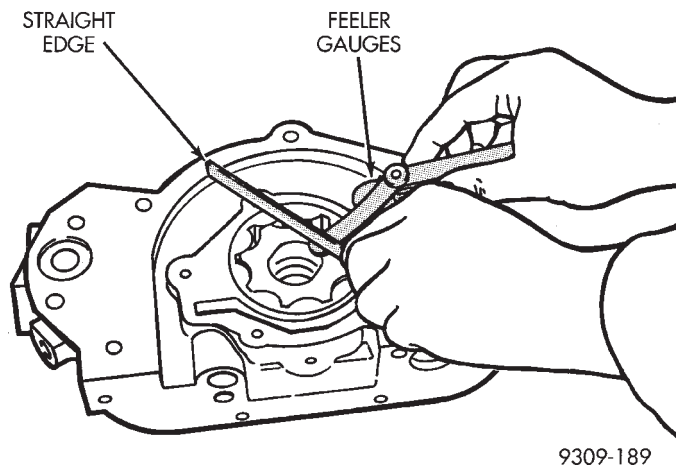

Fig. 119 Measuring Clearance Over Rotors
(7) Place a straightedge across the face of the body, between bolt holes. If a feeler gauge of 0.102 mm (0.004 inch.) or more can be inserted between rotors and the straightedge, replace pump assembly (Fig. 119) **ONLY** if rotors are in specs.